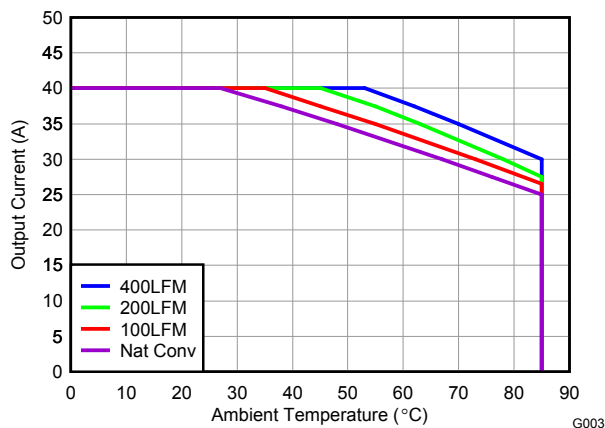
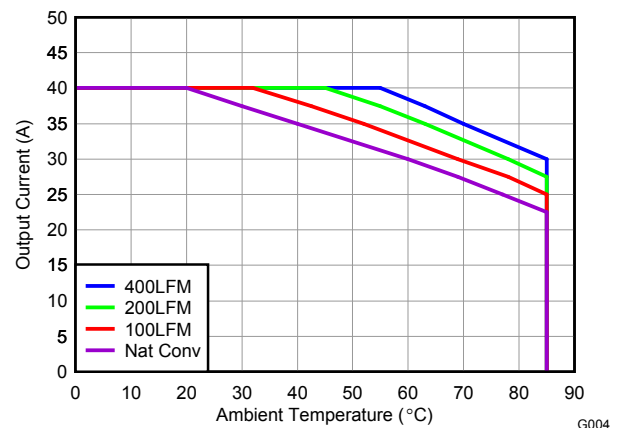
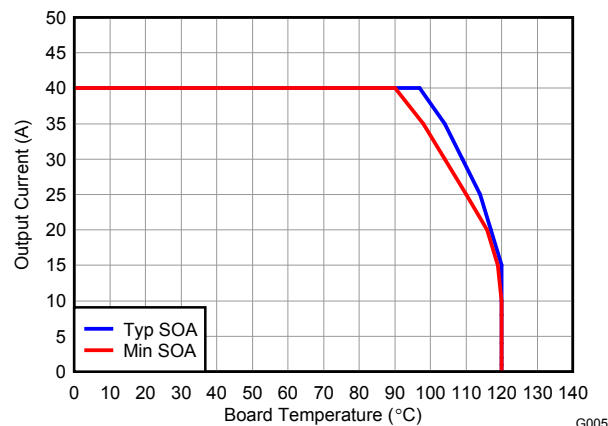

Figure 9. Safe Operating Area – PCB Vertical Mount ⁽¹⁾
Figure 10. Safe Operating Area – PCB Horizontal Mount ⁽¹⁾
Figure 11. Typical and Min Safe Operating Area ⁽¹⁾
The SOA curves in the CSD96370Q5M datasheet give engineers guidance on the temperature boundaries within an operating system by incorporating the thermal resistance and system power loss. Figure 9, Figure 10, and Figure 11 outline the temperature and airflow conditions required for a given load current. The area under the curve dictates the safe operating area. All the curves are based on measurements made on a PCB design with dimensions of 4.0" (W) x 3.5" (L) x 0.062" (T) and 6 copper layers of 1 oz. copper thickness.